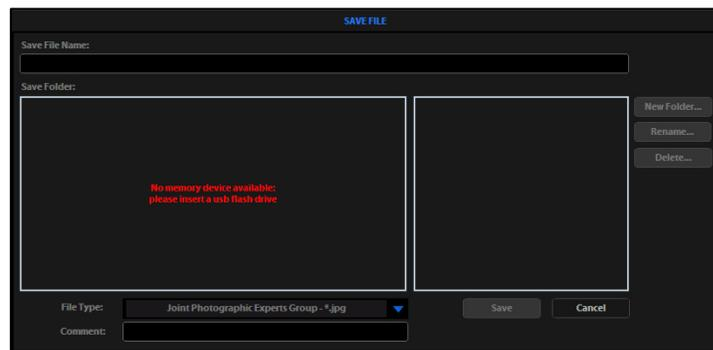

Figure 16 Save File information message
**C** **Note:** The color camera version displays the QuickSave option in all tabs (Figure 16).